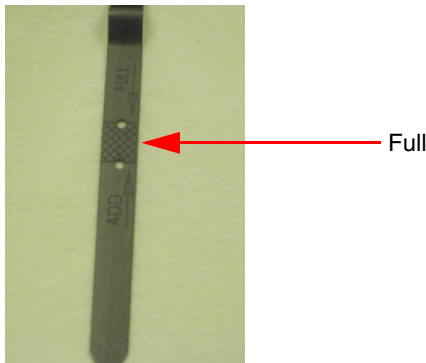

Figure 13
3. Refill oil through the fill tube to the level indicated as "full" on the dipstick. (See Figure 13)